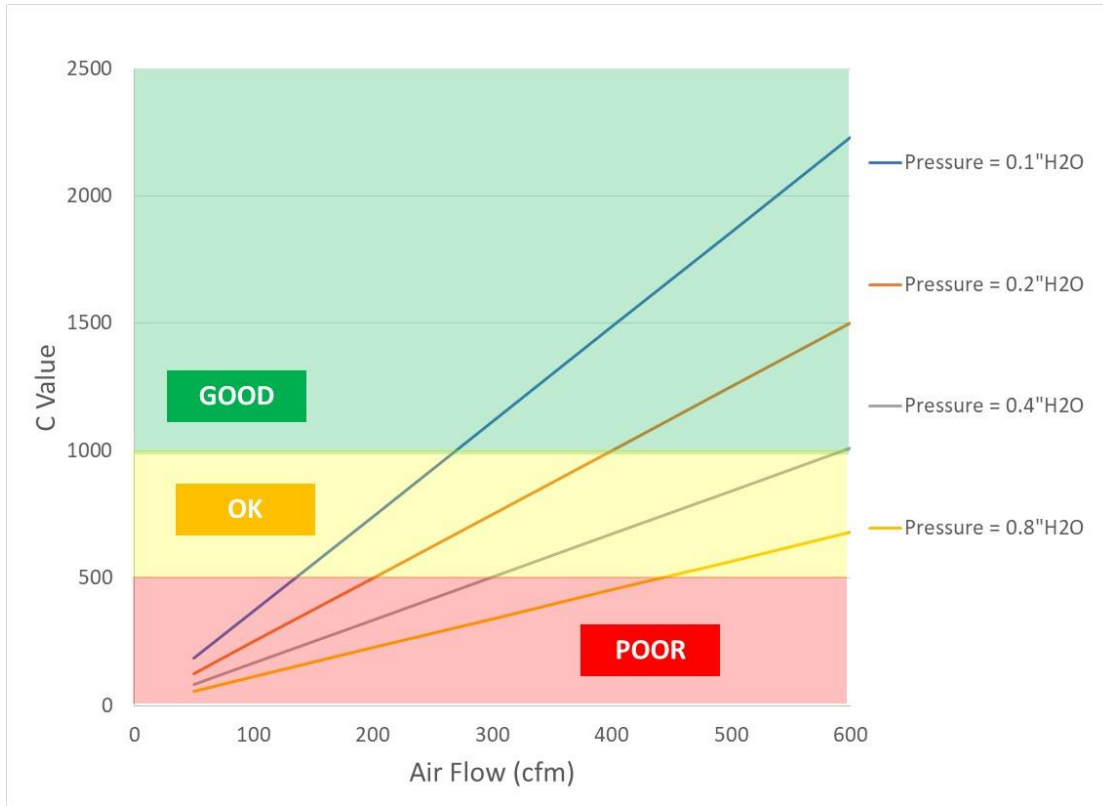

Figure 1 Duct system performance test C value plot based on air flow (cfm) and pressure ("H2O).
- c. Figure 1 can be used to determine C value directly from air flow (cfm) and duct pressure (“H2O”) measurements